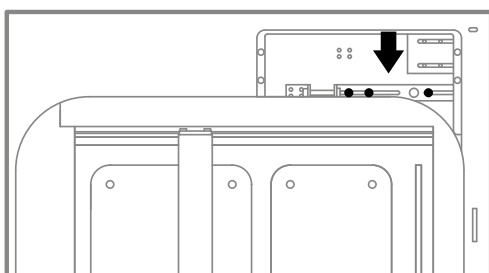

Fig. 12.73 Loose the three screws of the tightening mechanism.
11. To tighten the cord, use a 7 mm wrench and loosen the three screws marked in figure 12.73.
13. Using a 7 mm wrench, tighten back the three screws marked in figure 12.73.